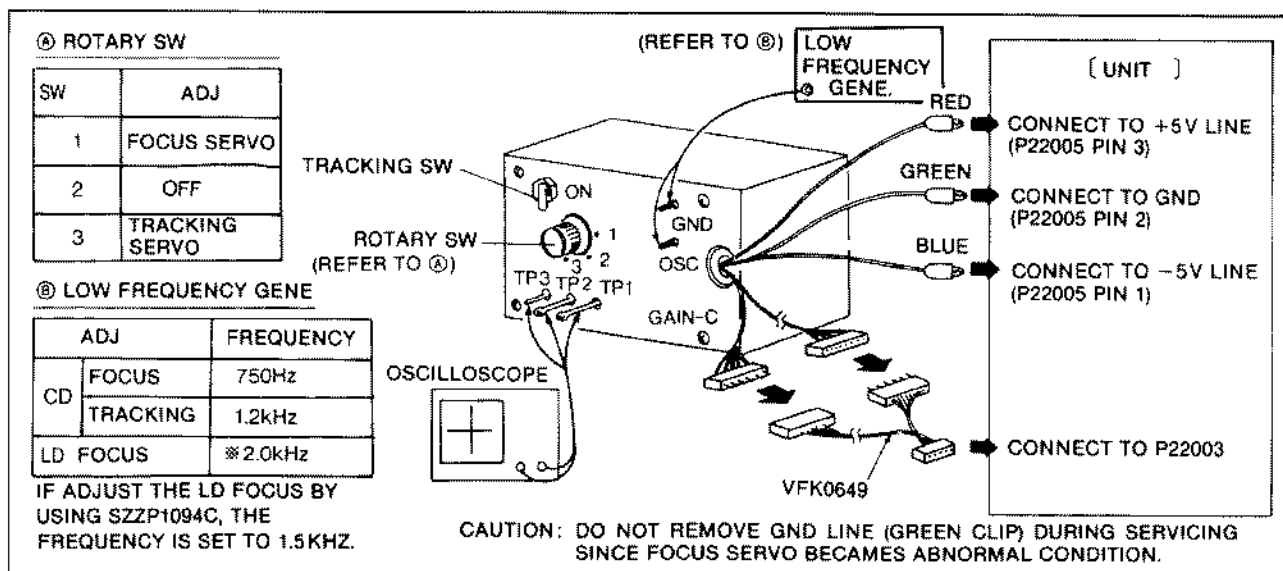

Fig. E4 CONNECTION OF SZZP1017F
- Disconnect the connector P22003 on the Servo C.B.A. and then connect the Servo Gain Fixture as shown in Fig. E4.